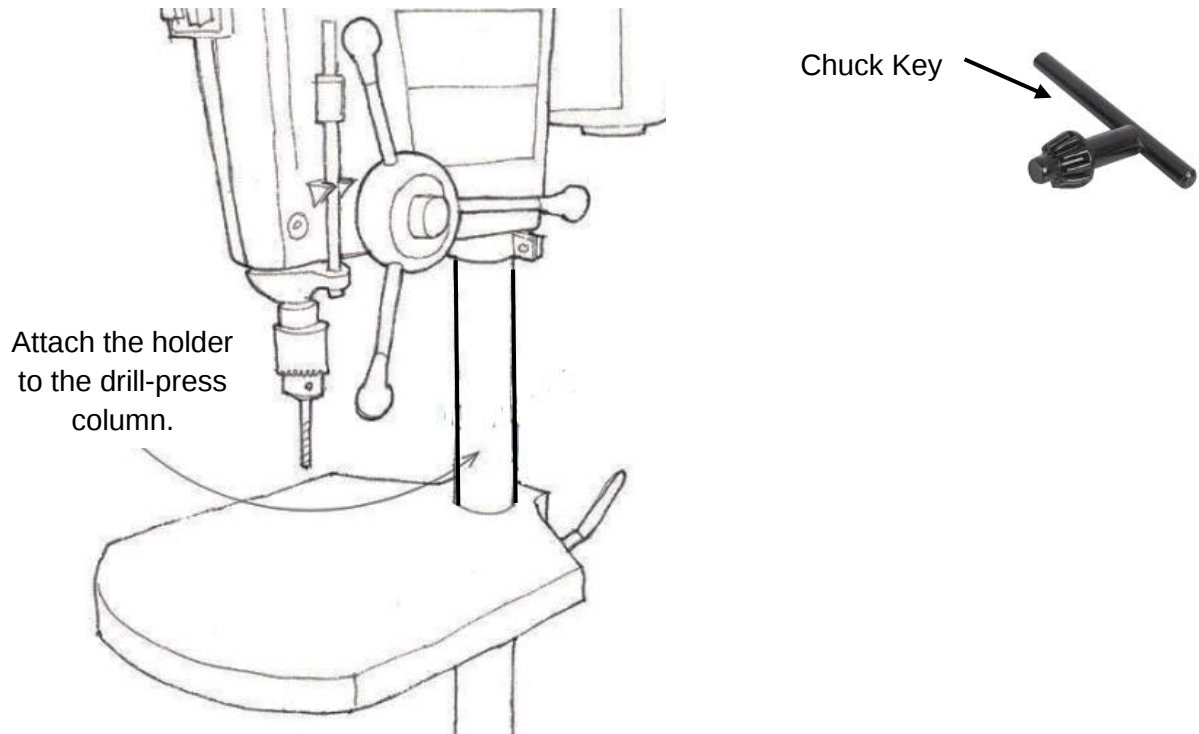

Fig. 3.2
- (v) Fig. 3.2 shows parts of the drill-press column of a drilling machine. The chuck key is often misplaced after use.
Sketch your idea for a holder on Fig. 3.2. You may add more sketches to communicate your design. Annotate if necessary.